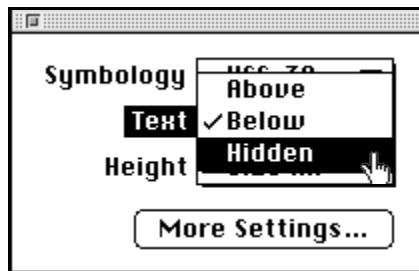

Figure 2-19 Bar Code Info Window - Selecting Hidden Text
10. In the Bar Code Info window, select **Hidden** for the Text Location. See Figure 2-19.